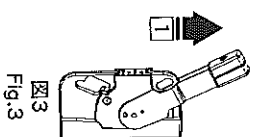

図3
4. Maintain the state and confirm that there is no gap 図3 (during a slide base and the handle of MCCB or ELCB).
1. 操作ハンドルをON操作してください。(図3)
2. Operate the operation handle in ON end. (See fig.3)